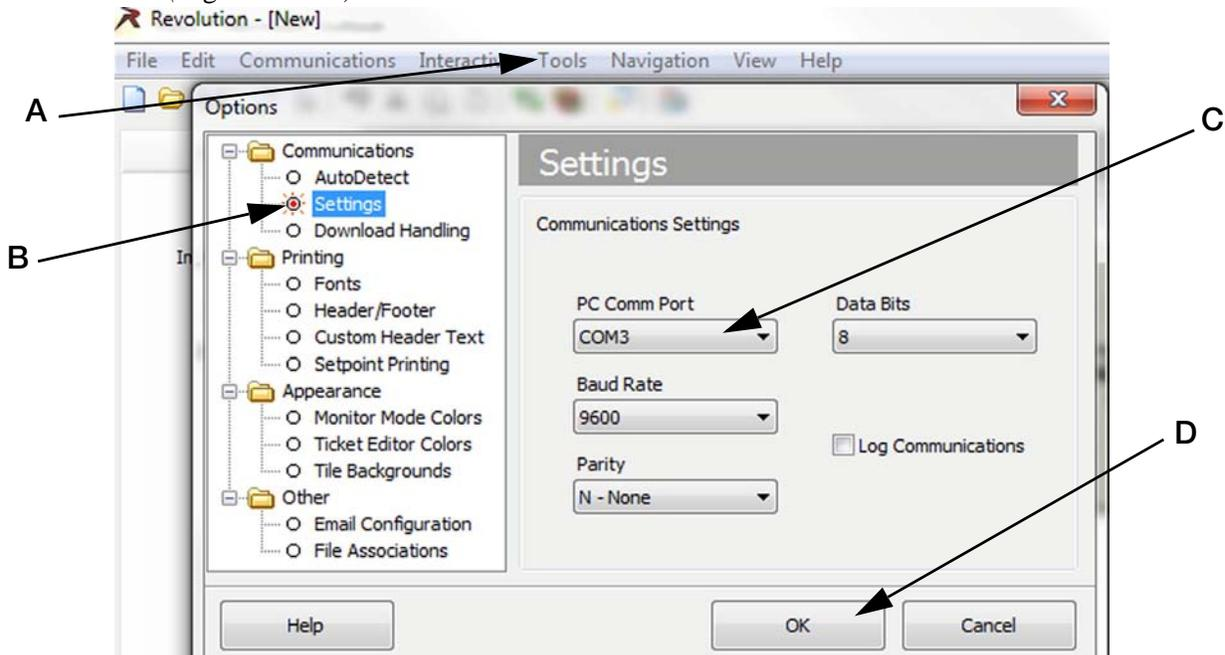

Figure 4-14. Options Screen to select Comm Port for USB
7. Go to Tools/Options (Figure 4-14 A) and select Settings (B), then choose the PC Comm Port (C) that will be used to connect the USB cable. (See Note above)
8. Click OK (Figure 4-14 D).